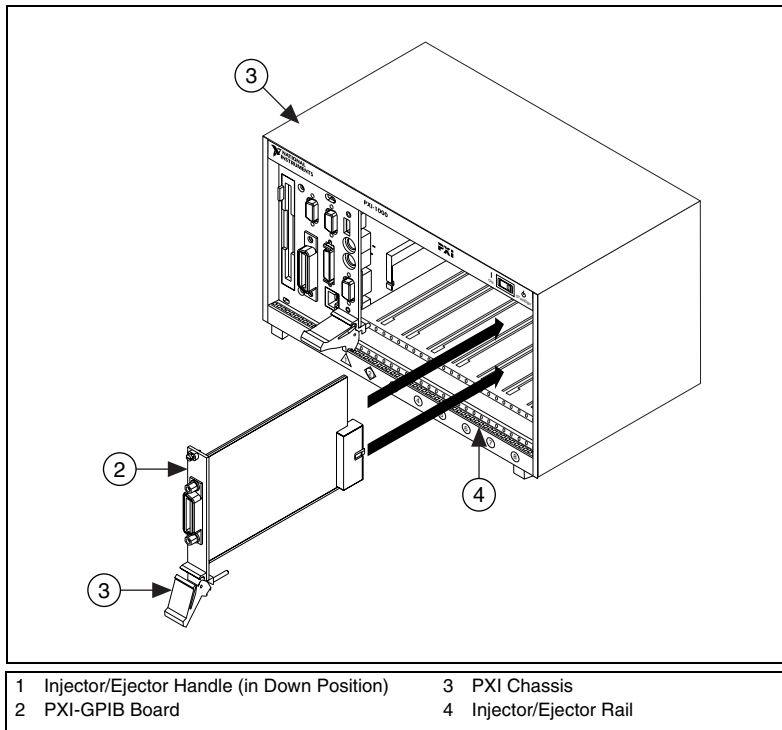

Figure 2. Installing the PXI-GPIB
7. Insert the PXI-GPIB into the selected slot. Use the injector/ejector handle to fully inject the device into place. Figure 2 shows how to install the PXI-GPIB into a PXI or CompactPCI chassis.